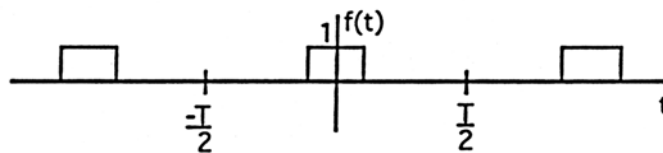

Figure 9
To get to the Fourier transform from here, do the obvious, as shown in Fig. 9. We take a rectangular pulse for $f(t)$ (only for purposes of illustration). $f(t)$ is a periodic function with a period of T (we've chosen $-T/2$ to $T/2$ instead of 0 to T for simplicity). Now keep the rectangular pulse constant and let T get larger and larger. What happens in (11) and (12)? Well, the difference between harmonics, ω_0 , is getting smaller. Recall that